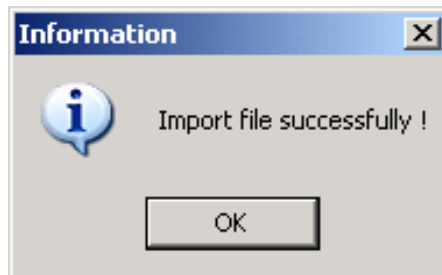

Figure 6
7. If the file transferred successfully, a message will appear as shown in Fig. 6.